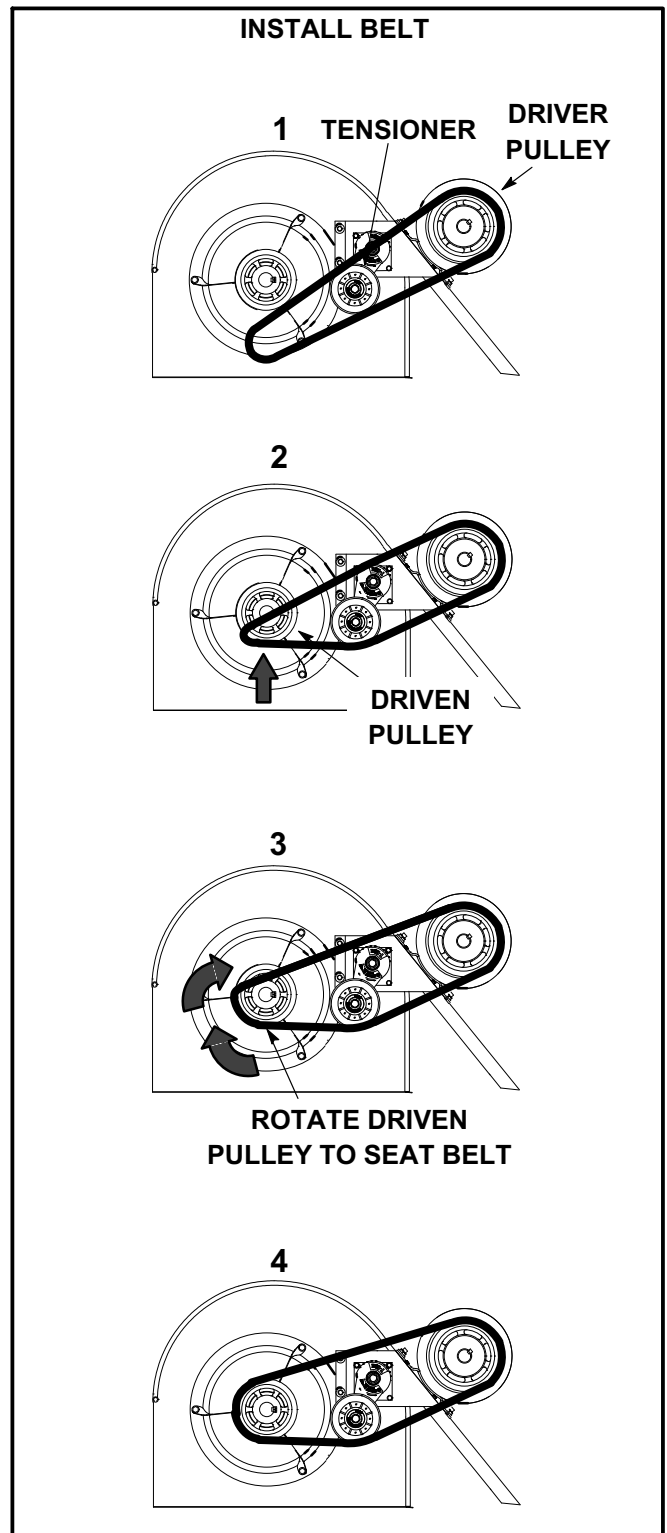

FIGURE 24
- 6- Replace blower belt. See figure 24.